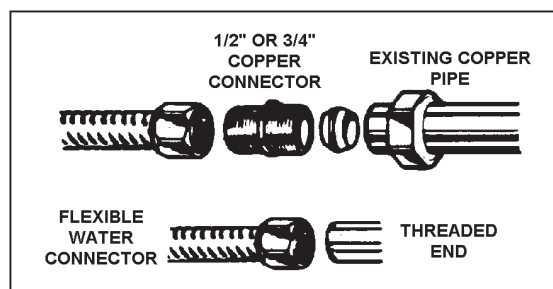

FIGURE 17.
6. If your home has 1/2" or 3/4" copper piping to the water heater, use the correct size compression fittings to connect both flexible water connectors to existing copper pipes. Connect fittings to existing piping first. If your home has 3/4" galvanized piping to the water heater, simply apply teflon tape or pipe joint compound to the ends of the galvanized pipes and screw flexible connector onto the pipes, see Figure 17.